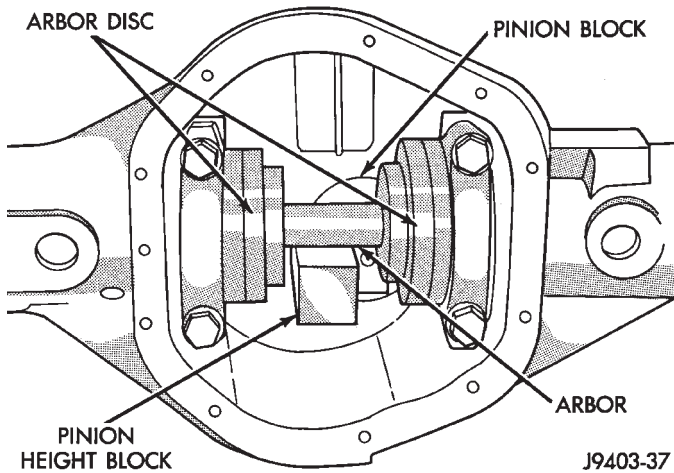

Fig. 59 Gauge Tools In Housing—Typical
(4) Place Arbor Disc 6732 on Arbor D-115-3 in position in axle housing side bearing cradles (Fig. 59). Install differential bearing caps on Arbor Discs and tighten cap bolts to 41 N-m (30 ft. lbs.).